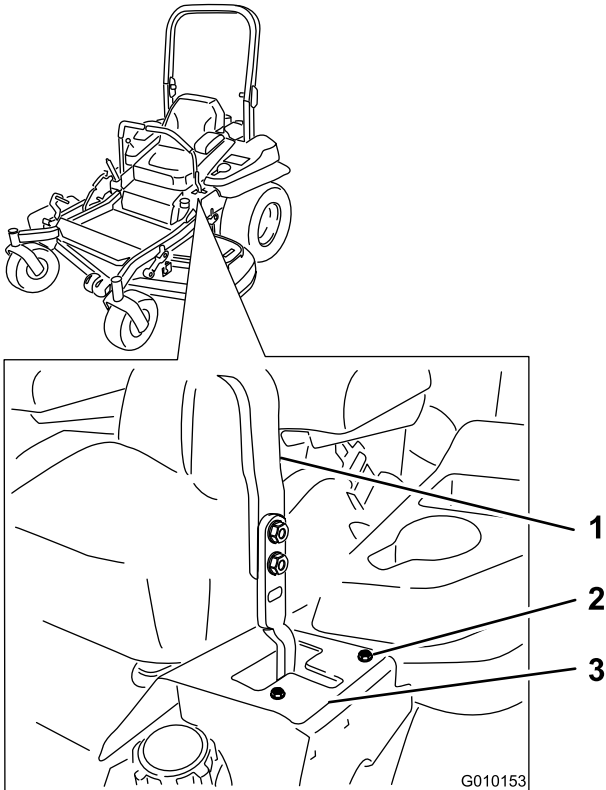

Figure 74
- If the machine tracks to the right, loosen the bolts and adjust the left stop plate rearward on the left T-slot until the machine tracks straight (Figure 74).
- If the machine tracks to the left, loosen the bolts and adjust the right stop plate rearward on the right T-slot until the machine tracks straight (Figure 74).
8. Tighten the stop plate (Figure 74).